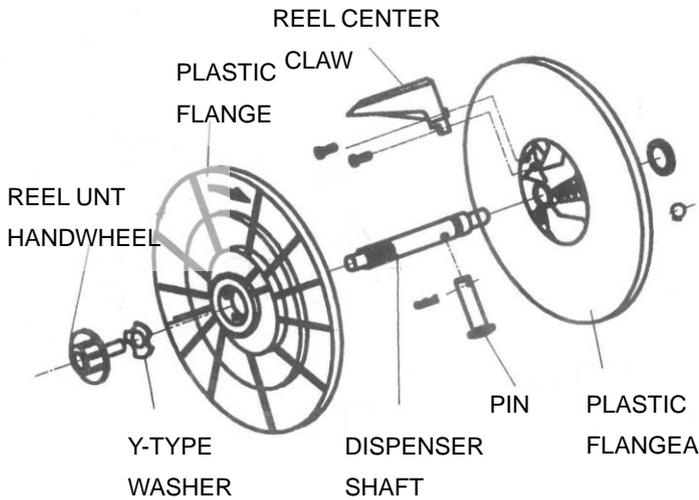

FIGURE 7. DISPENSER ASSEMBLY
Refer to Figure 7. and proceed as follow:
1. Withdraw the dispenser assembly. Place the assembly as shown.(Fig.7,P.6)